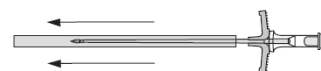

Figure 4
- Insert supplied introducer needle or tunneler through opening of T-handle introducer sheath and remove needle guard from introducer (if applicable) (Figure 4). Do not apply excessive pressure to T-handle. Grip only the introducer needle or tunneler hub during insertion.